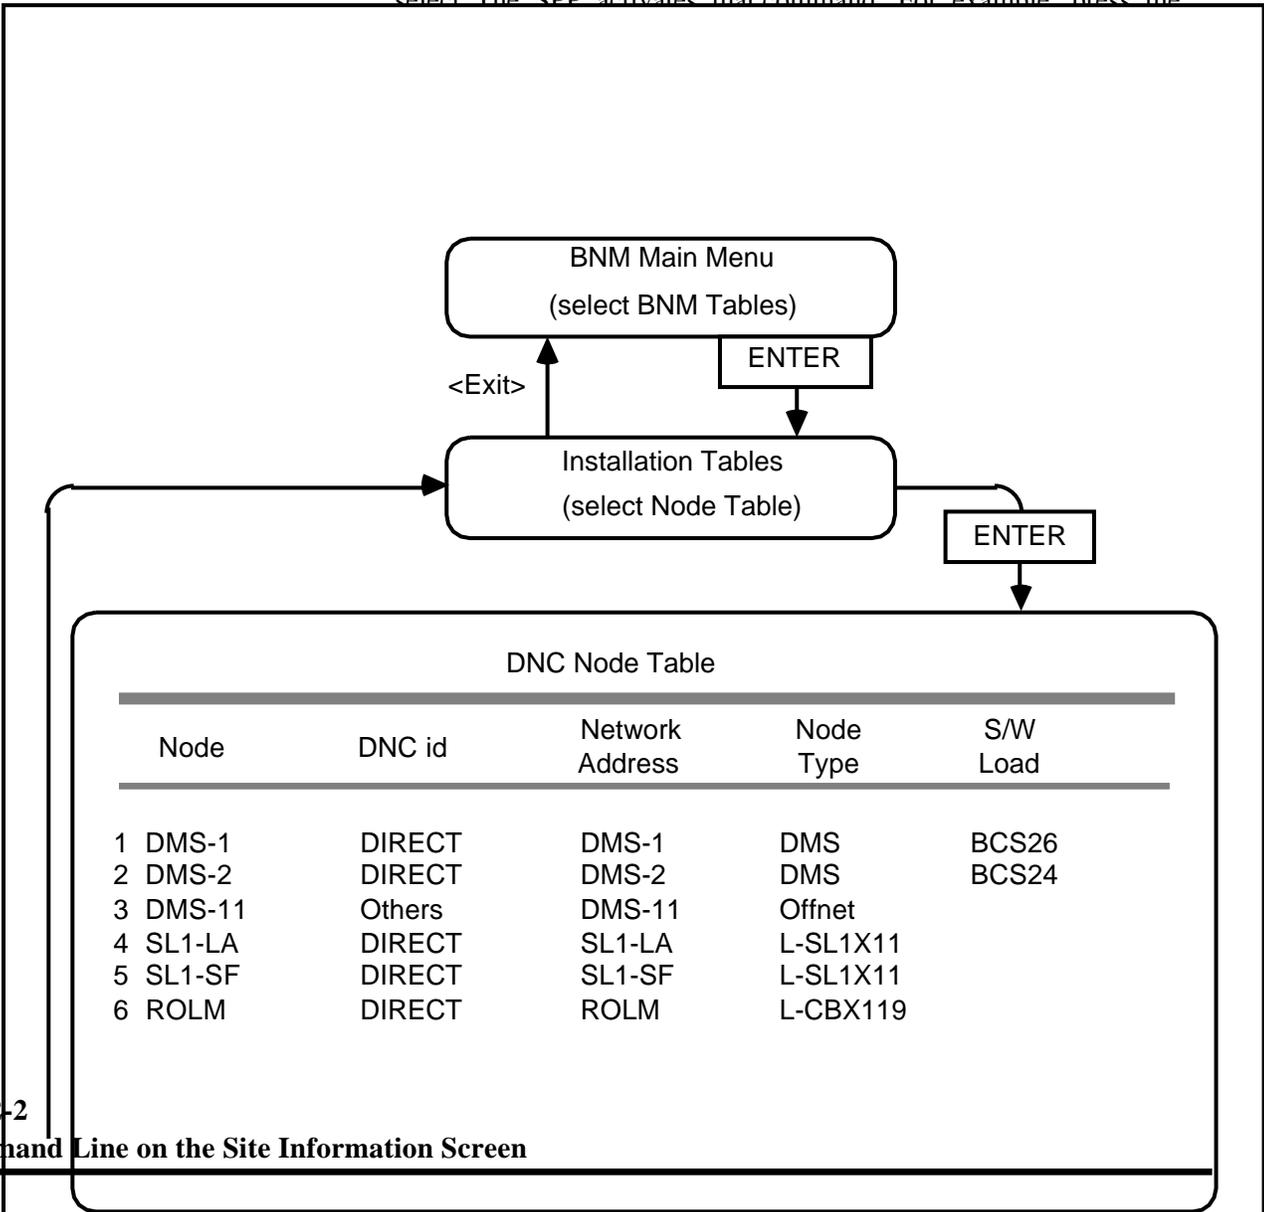

Fig. 2-2 Command Line on the Site Information Screen
2.14 A line of commands appears at the bottom of some SPP screens (see Fig. 2-2). You use commands to specify functions and interact with the database. The commands change in relation to the type of menu that you access. In this publication, an explanation of the commands is provided whenever required.